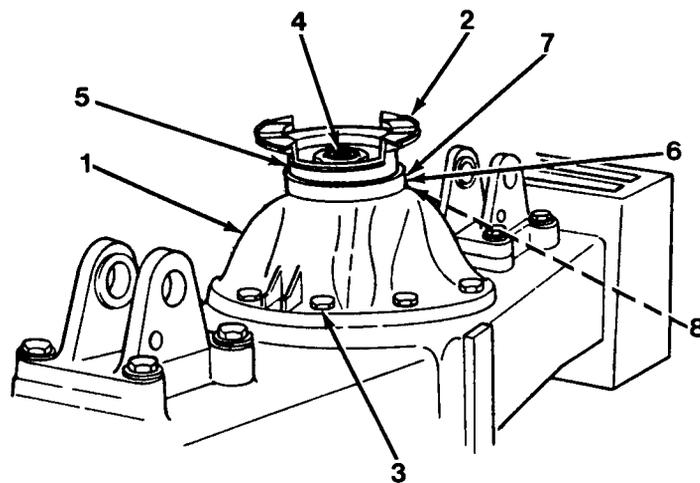

Figure 12-1
11. Torque 10 mounting bolts (3, Figure 12-1) to 58 lb-ft (79 N•m).
13. Fill differential assembly (1) with oil (refer to page 3-57 and Lubrication Chart).